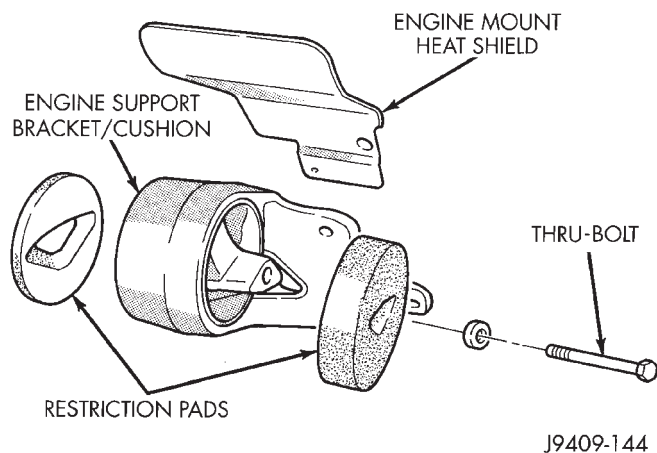

Fig. 11 Engine Mounts—Front
- (3) Install engine support/lifting fixture.
- (4) Raise vehicle on hoist.
- (5) Lift the engine SLIGHTLY and remove the thru-bolt and nut and rubber engine restrictors. (Fig. 11).
- (6) Remove engine support bracket/cushion bolts (Fig. 11). Remove the support bracket/cushion and heat shields.